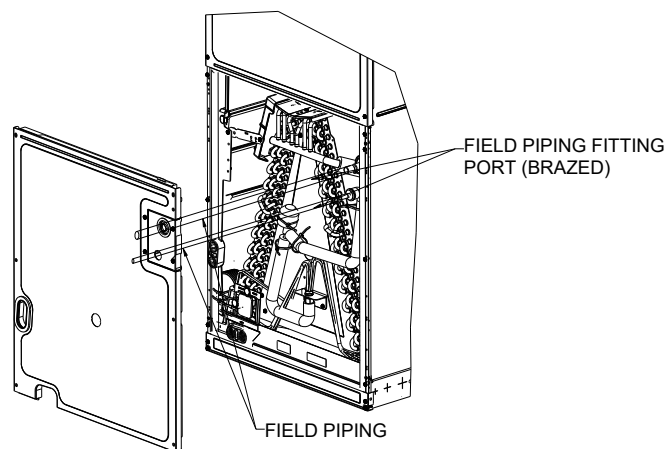

**FIGURE 14**
- Slide the front panel (lower) along the field piping until it is far enough away that it will not be affected by heat from the brazing, as shown in Figure 14.